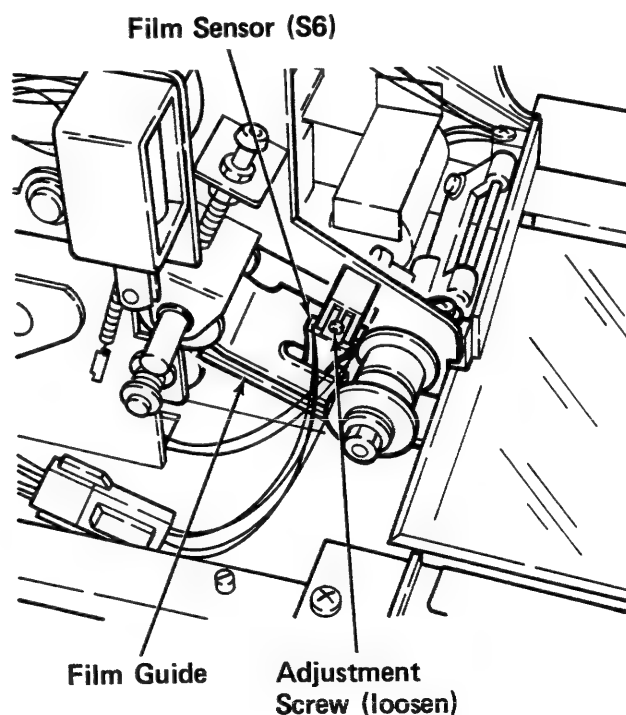

Figure 3-10.5A
1. Loosen the Adjustment Screw and reposition the Film Sensor (S6) as required (Figure 3-10.5A).